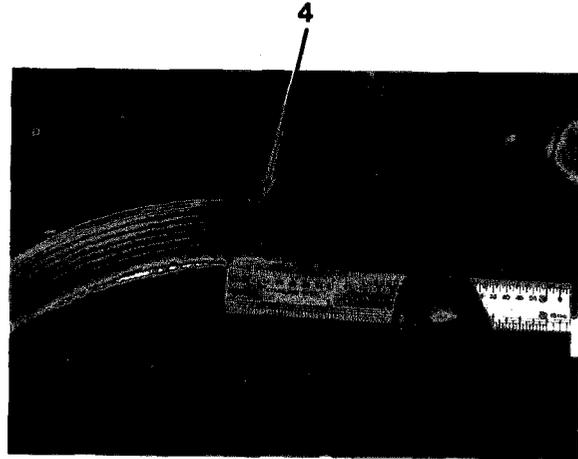

Figure 6-7
11. Mark pulley (4, Figure 6-7) half distance between first two marks.